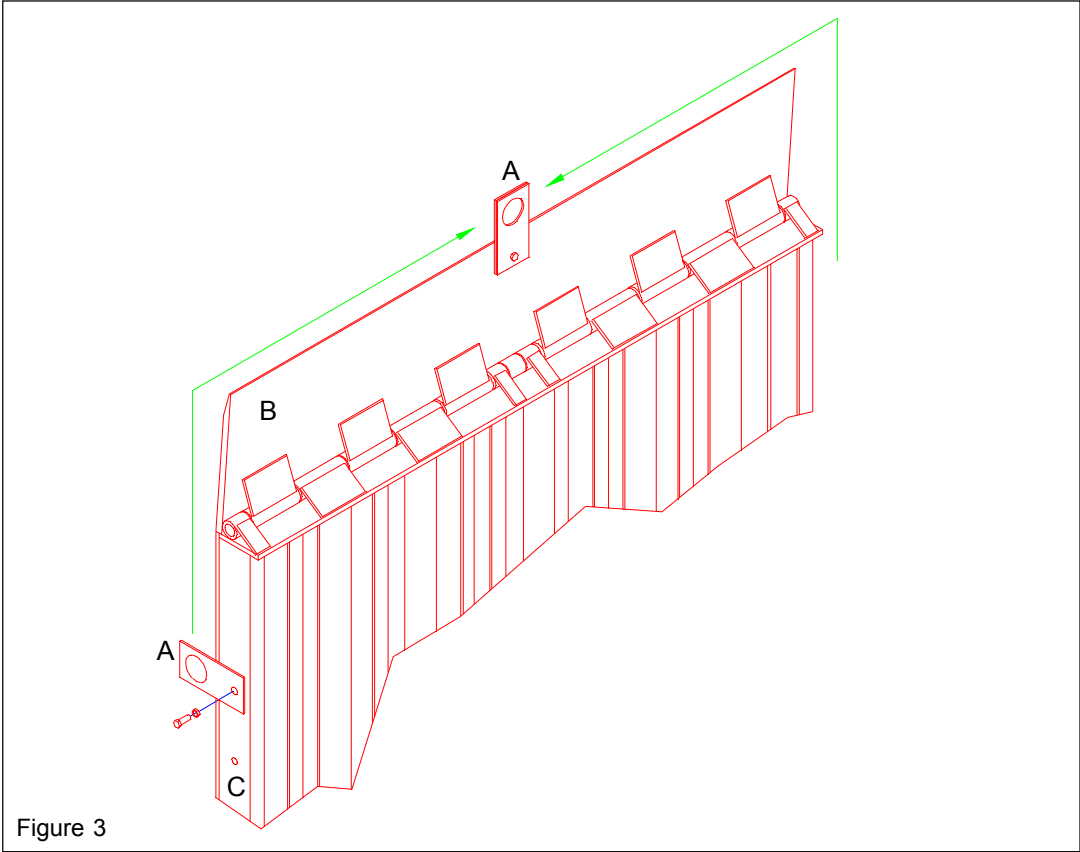

Figure 3
1. Poweramp VS docklevelers are shipped with lifting lugs attached to the outboard joists. These lugs must be moved to the 3/4" hole provided in the lip for installation (See Fig. 3).
2. Lift platform into vertical position by lifting lugs and position VS leveler platform with three (3) rear hinge tubes in line with matching frame hinge weldments.
3. Insert three (3) hinge pins through hinge assemblies and lock with cotter pins provided.